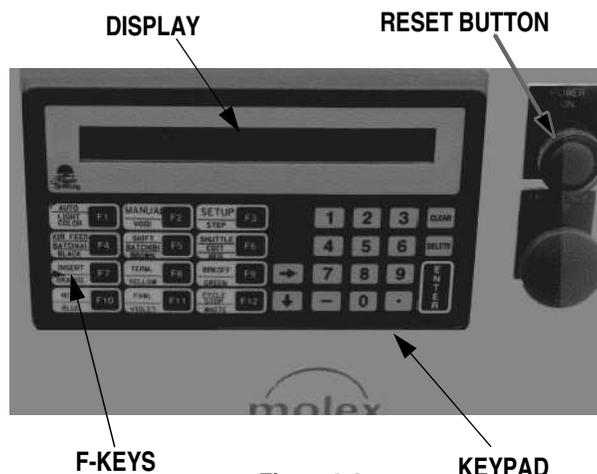

Figure 2-6
2. Press the green "POWER ON" button on the upper right corner of the control cabinet. The button should light up. See Figure 2.6.